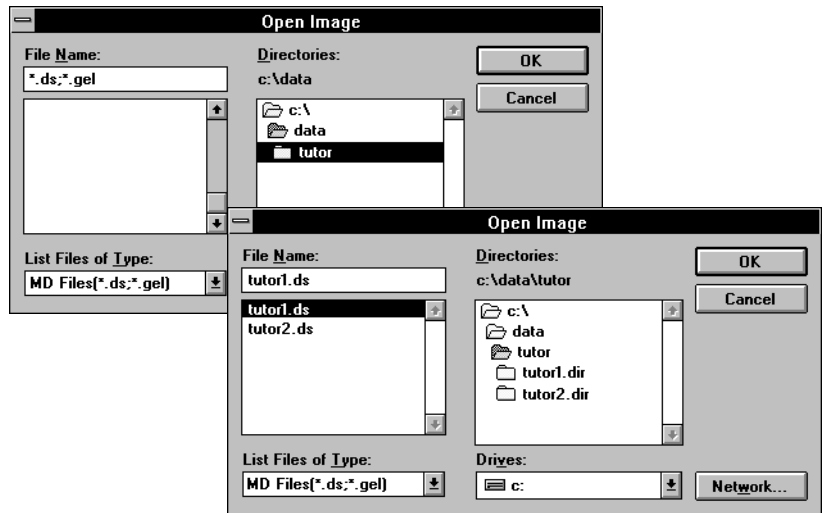

Figure 3-5. Selecting the file to process.
To select an image file to load, display the **File** menu and click **Open Image**. The Open Image window appears (figure 3-5). In the list of files box, locate the file you want to analyze, and then double-click the file name (or click the file name, and then click **OK**).
2. Click **Open Image**. The Open Image window appears (figure 3-5).